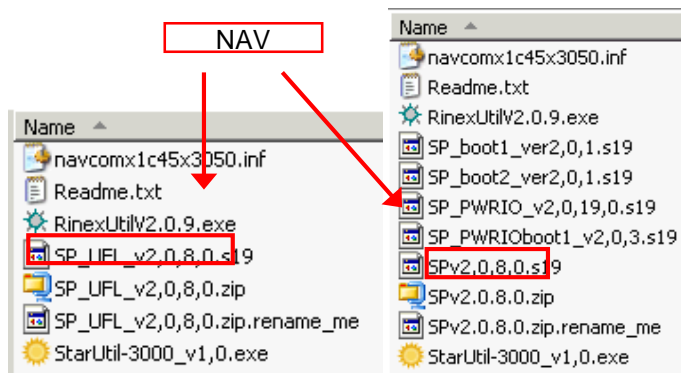

Figure 9: Firmware Folder
21. Browse to the NavCom\Firmware folder on the PC (see Figure 2). The Firmware folder is copied from the SF-3050 Product Configuration USB Flash Drive. It contains the *most current firmware* (see example files in Figure 9). The firmware file extension is \*.s19.